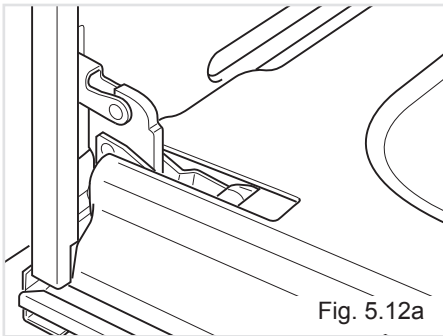

Fig. 5.12a
- Open the door to the full extent (fig. 5.12a).